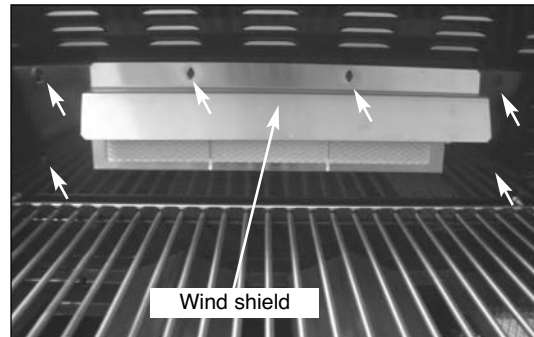

Fig 12
14. Remove the six (6) screws securing the rear IR cover and wind shield in position. (See Fig. 12)
17. Use the four (4) screws removed in step 14 to reinstall rear IR cover in position, then use the other two screws to reinstall the wind shield. (See Fig. 12)